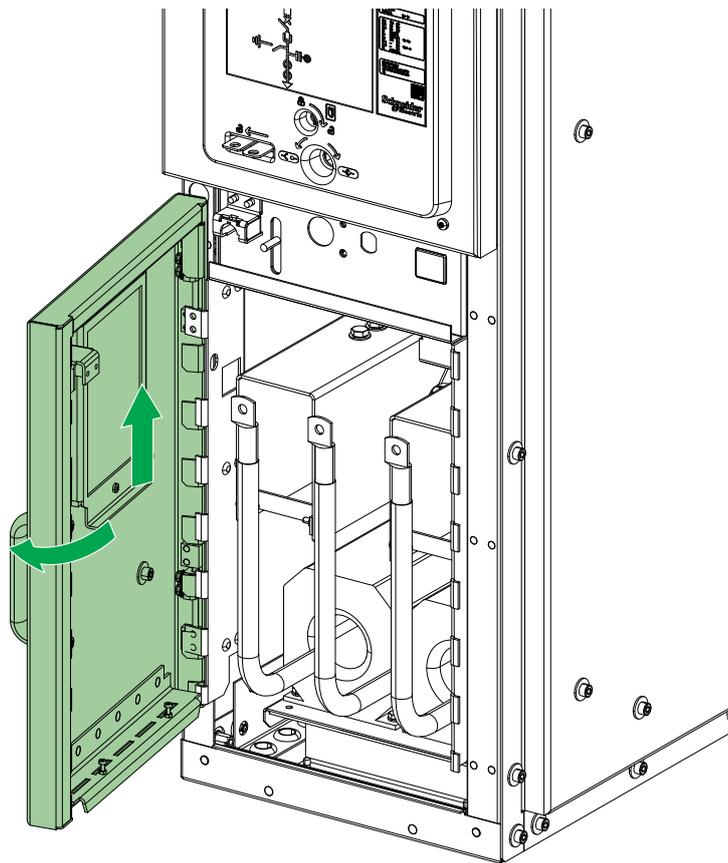

Figure 67
1. Lift and turn the cable compartment cover. Refer to Figure 67.